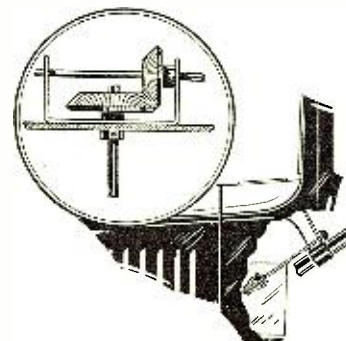

Fig. 2. Pair of beveled gears, as shown to the right, provide a satisfactory means for turning the shaft of the condensers from the dashboard
**The Optical System.** The optical system comprises two sets of lenses and an aperture plate, the whole being simple in detail but must be accurate in adjustment. The first set of lenses, C in Fig. 2, are for condensing the light energy emitted from the filament of the exciter light and concentrating it to a point at the aperture plate, which carries the slit. It is necessary to collect as much light as possible and focus it to as narrow a beam as possible by means of the slit, which is quite a bit less in width than the paper of this magazine is thick.
The image of the slit is collected by the second set of lenses, O in Fig. 2, called the objective, and focused to a narrow beam on the sound track of the film. This very narrow beam of a relatively great intensity is then varied in its intensity by passing through the dark and light spaces of the film's sound track.